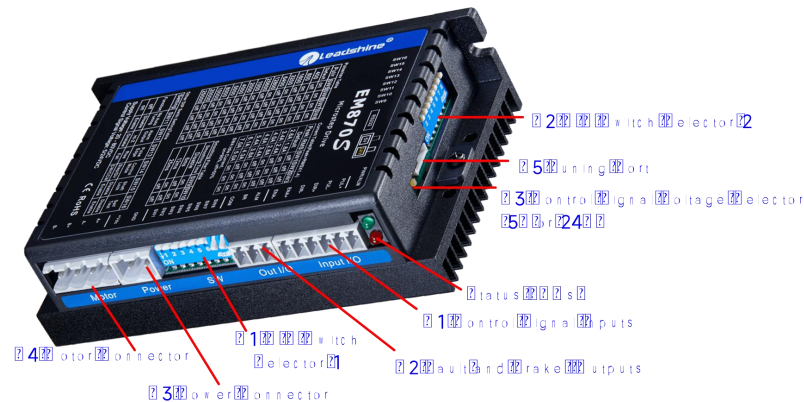

Figure 2 Connectors, DIP switches, and LED locations
(4) Single pulse (step & direction) or double pulse (CW/CCW) is set by DIP Switch SW14
(5) DIR signal requires advance PUL signal minimum 5 μs in single pulse mode
(6) The activated edge of PUL and DIR is set by DIP Switch SW13
(7) The factory setting of control signal voltage is 24V, must need to set S3 (figure 2) if it is 5V
(4) The default control signal voltage is 24V, to set S3 (figure 2) if it is 5V
(5) Enable time to be at least 200ms
The DM870 can accept differential or single-ended control signals (pulse, direction, and enable) in open-collector or PNP connection through the P1 connector (figure 2). It is recommended to add an EMI line filter between the power supply and the drive to increase noise immunity for the drive in interference environments.
The first 8-bit is located on the side (DIP switch selector 1 in Figure 2) and used to configure settings of micro step resolution, output current, and motor standstill current as shown below, the factory setting of SW1-SW8 is OFF, OFF, OFF, OFF, OFF, OFF, ON, ON.
The second 8-bit DIP switch is located on the top (DIP switch selector 2 in figure 2), and used to configure settings of control command filtering time, motor auto-configuration, fault output impedance, pulse active edge, control mode, lock shaft, and self-test as shown below, the factory setting of SW1-SW8 is OFF, OFF, OFF, ON, ON, OFF, OFF, OFF.
The Third 1-bit selector is located on the top (DIP switch selector 3 in figure 2), used to configure the voltage of control signals. For the safety of optically coupled, the factory setting is 24V, which no need to connect 2K resistors like the old drives, making it easier to use. When the voltage of the control signal is 5V, the S3 must be set to 5V, otherwise, the motor won't work.